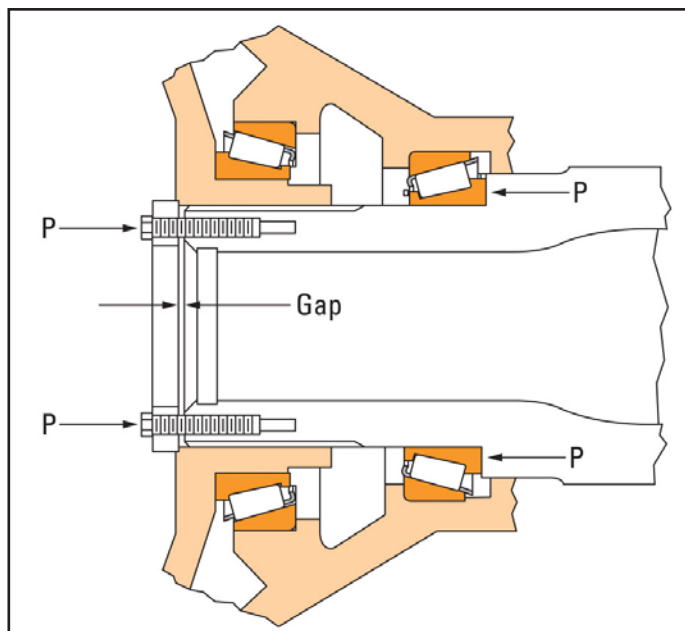

Figure 10 Planetary Drive Wheel
To establish the method for a given machine configuration, a dimensional reference condition known as the “deflection constant” must first be determined. The deflection constant is simply the (averaged) system deflection, resulting from a known “set-up” load applied through the bearings, as determined from the testing of several preproduction units. This system deflection is typically gauged by measuring a shim gap (Fig. 10).
The selection of the final shim pack thickness for each unit is simplified by use of a shim chart (Fig. 11). The shim pack thickness indicated on the chart includes the effect of the previously established acro-set constant. Note that the shim chart facilitates proper shim pack determination based on shim gap measurements taken at two positions, 180° apart. The planetary drive wheel assembly (Fig. 10) will be used to illustrate the acro-set technique.
3. Select the proper shim pack thickness (from the shim chart), equal to the measured gap plus the predetermined acro-set system constant (that was established from pre-tested assemblies). The Figure 10 chart averages the two readings and provides the final shim pack thickness. In this case, 0.66 at 180° and 0.61 at 0° gives a 0.97-thick shim pack.